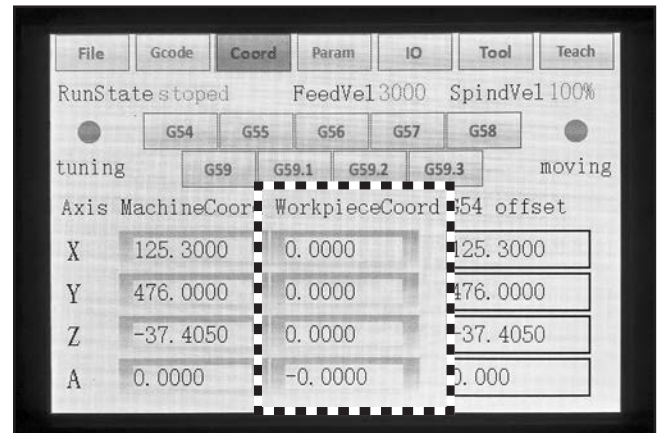

Figure 50. Example of origin set in WorkpieceCoord column.
- Coordinate screen will show "0.0000" for each axis in the "WorkpieceCoord" column (see **Figure 50**).